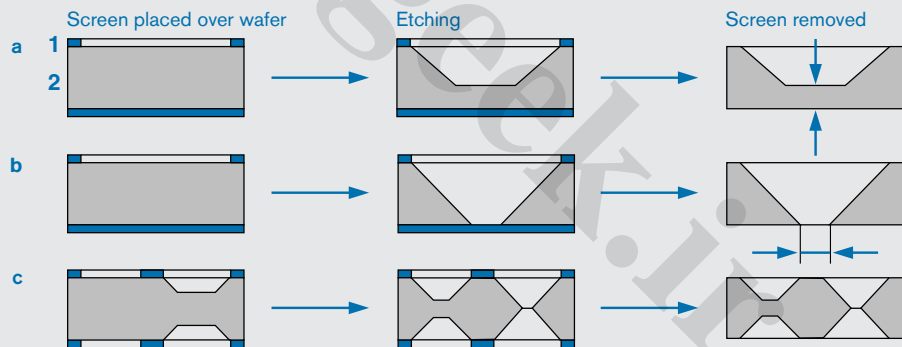

Fig. 1
The silicon wafer material is removed up to the full thickness of the wafer by anisotropic (alkaline) etching with or without electrochemical resist. The material is etched away from the reverse side of the silicon layer (Fig. 1, item 2) in those areas where it is not protected by the etching screen (1). This method can be used to create very small diaphragms (a) with typical thicknesses of between 5 and 50  $\mu\text{m}$ , holes (b) and bars and ridges (c), e.g. for pressure or acceleration sensors.
number of layers (Fig. 1). Circuit boards used in motor vehicles consist of between two and eight layers.